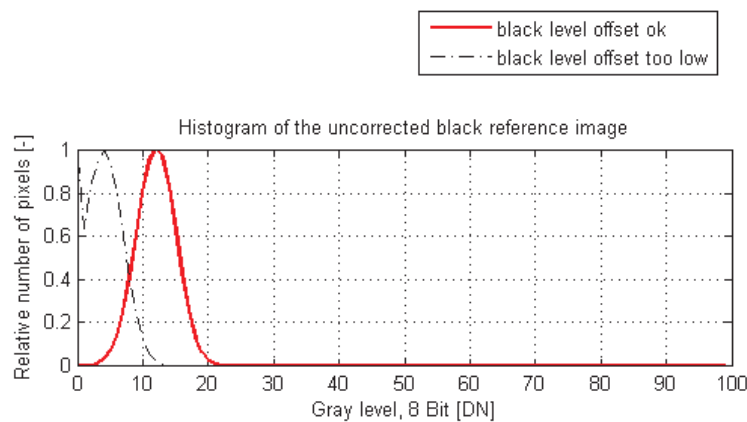

Figure 4.16: Histogram of a proper black reference image for offset correction
- It may be necessary to adjust the black level offset of the camera. In the histogram of the black reference image, ideally there are no grey levels at value 0 DN after adjustment of the black level offset. All pixels that are saturated black (0 DN) will not be properly corrected (see Fig. 4.16). The peak in the histogram should be well below the hot pixel threshold of 63 DN @ 8 bit.